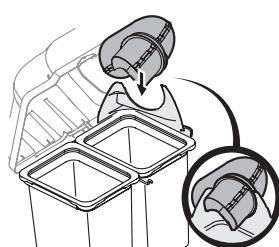

Figure 35
8. With the bagger cover open, pivot the upper chute tube into position so that the chute rests in the upper chute support. See Figure 35.